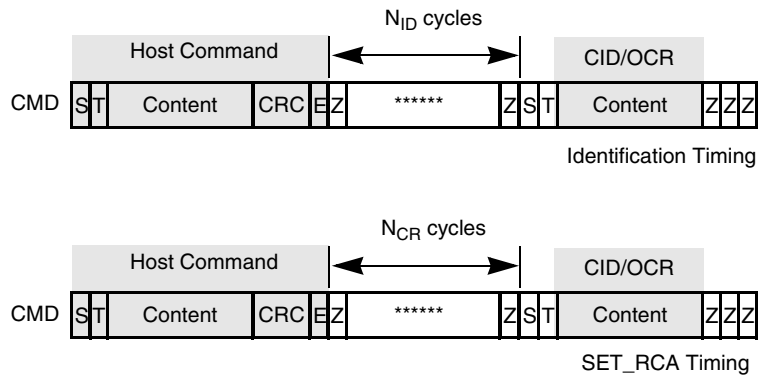

Figure 48. Timing Diagrams at Identification Mode
The card identification and card operation conditions timing are processed in open-drain mode. The card response to the host command starts after exactly  $N_{ID}$  clock cycles. For the card address assignment, SET\_RCA is also processed in the open-drain mode. The minimum delay between the host command and card response is NCR clock cycles as illustrated in Figure 48. The symbols for Figure 48 through Figure 52 are defined in Table 29.
Table 29. State Signal Parameters for Figure 48 through Figure 52
**Table 30. Timing Values for Figure 48 through Figure 52 (Continued)**